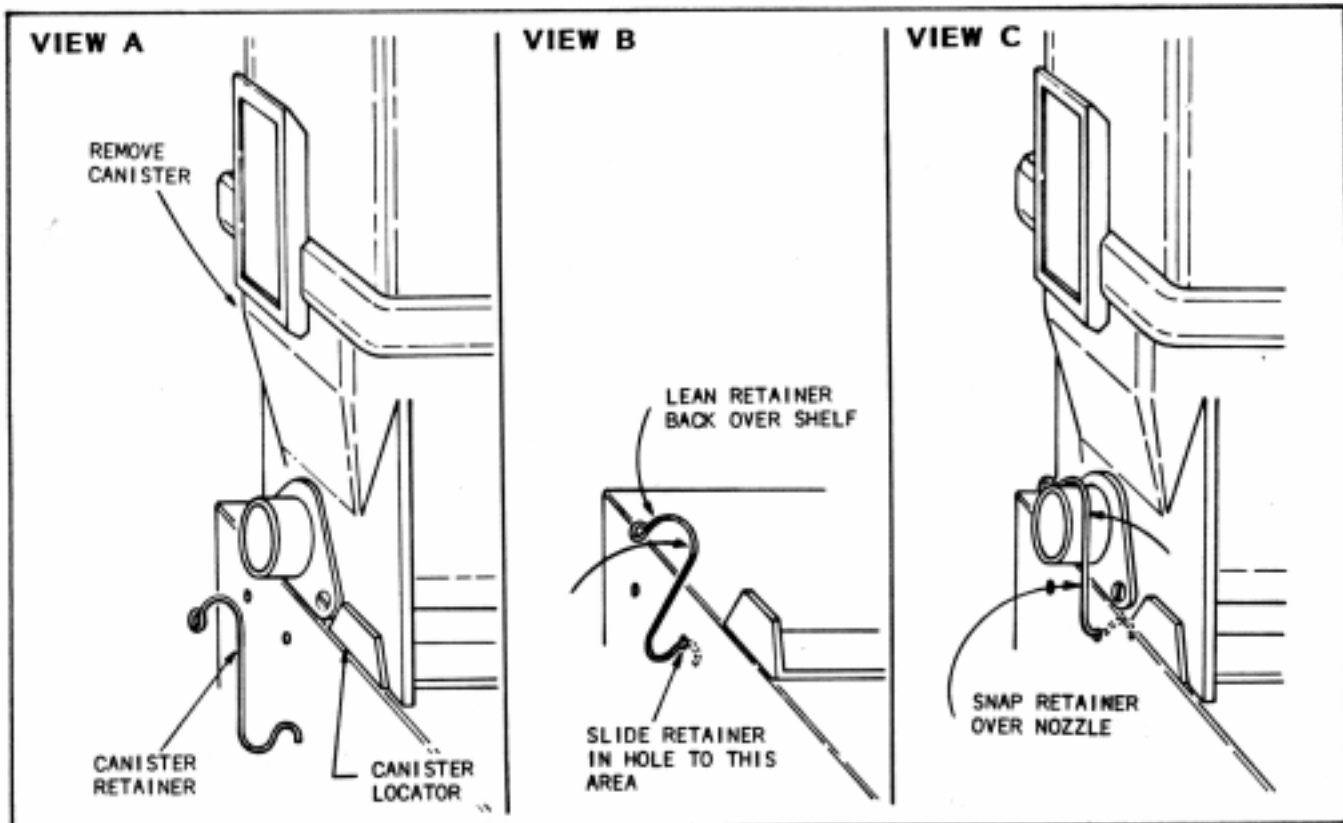

FIGURE 1
- A. "S" end of retainer is inserted into hole in shelf under each canister area that is closest to canister locator. (See View A, Figure 1). (Right hand shown left hand opposite).
- C. Replace canister. The end of the retainer with the circle end will now snap over the nozzle as you swing it up. (See View C, Figure 1)